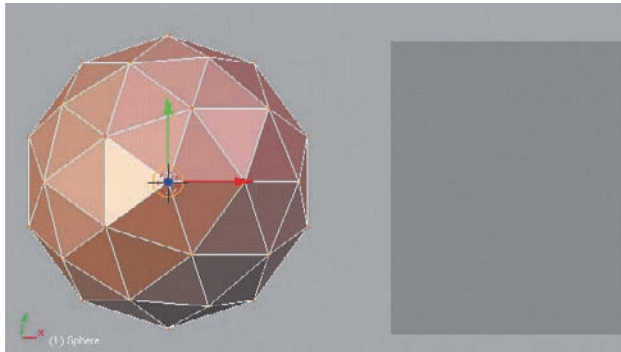
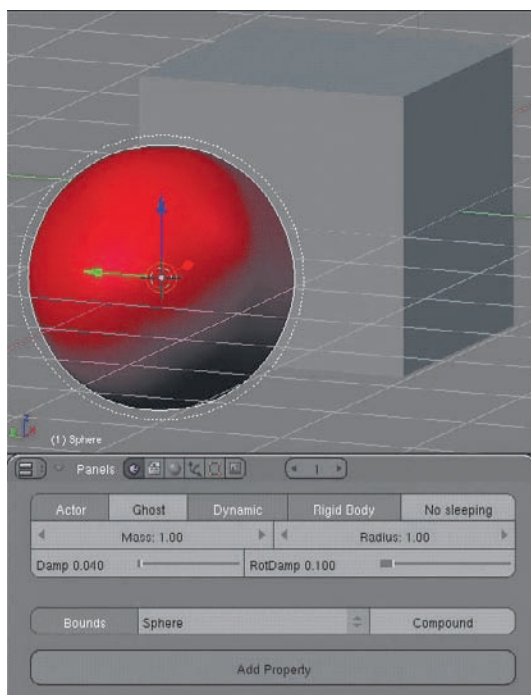

Figure 6.16 Add an Icosphere.
Figure 6.17 Parameters for the sphere
12. Add an Icosphere next to the cube, as shown in Figure 6.16. Using the Logic buttons, set the sphere as an actor with the same parameters as you set for the cube, except with Sphere selected under Bounds, as shown in Figure 6.17.